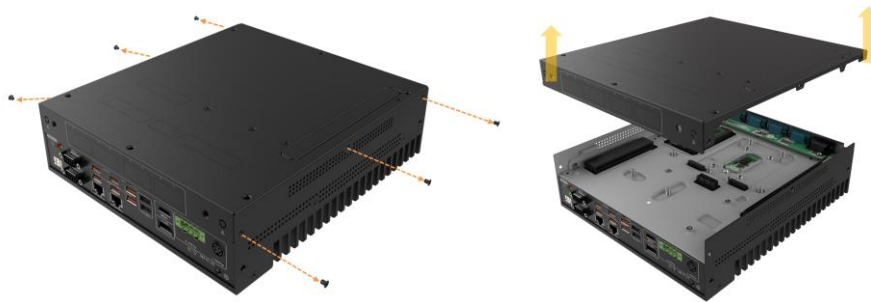

Figure 3-1: Remove the Cover
Step 2: Take off the bottom cover (Figure 3-1).